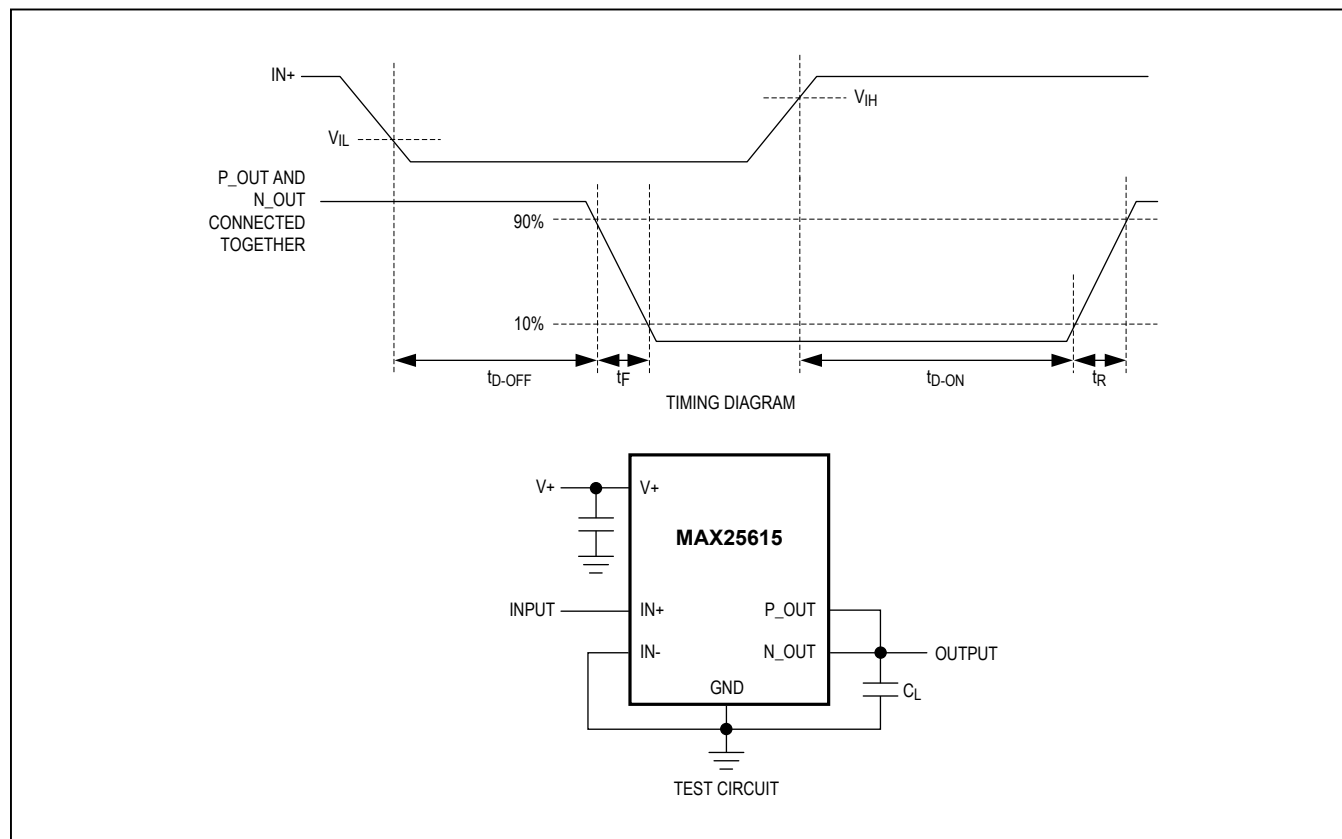

Figure 1. Timing Diagram and Test Circuit
(V+ = +12V, CL = 0F, TA = TJ = -40°C to +125°C, unless otherwise noted. Typical values are at TA = +25°C. see Figure 1.) (Note 3)
**Electrical Characteristics (continued)**(V+ = +12V, CL = 0F, TA = TJ = -40°C to +125°C, unless otherwise noted. Typical values are at TA = +25°C. see Figure 1.) (Note 3)
SWITCHING CHARACTERISTICS FOR V+ = +12V (Figure 1)
SWITCHING CHARACTERISTICS FOR V+ = +4.5V (Figure 1)
( $C_L = 1000\text{pF}$ ,  $T_A = +25^\circ\text{C}$ , unless otherwise noted. See Figure 1.)
(CL = 1000pF, TA = +25°C, unless otherwise noted. See Figure 1.)INPUT VOLTAGE vs. OUTPUT VOLTAGE